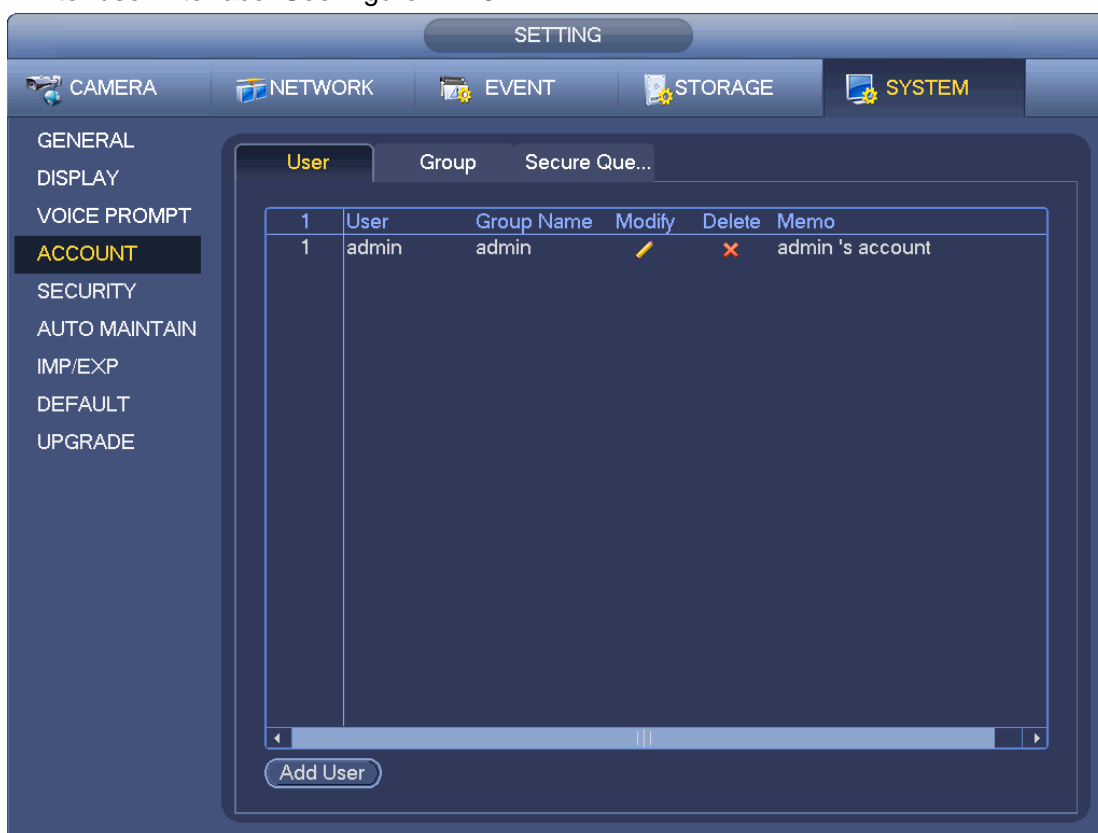

Figure 4-115
Enter user interface. See Figure 4-115.
Step 2 Click Add user button in Figure 4-115.